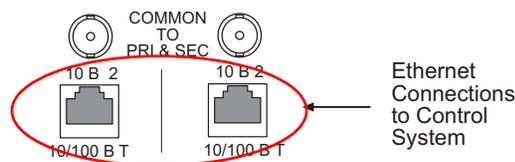

Figure 3-20. Ethernet Connections to Control System (Rear View)
- 1 Locate the Ethernet connections on the rear of the router, as shown in Figure 3-20. Ethernet control connections are labeled '10/100 BASE T'.